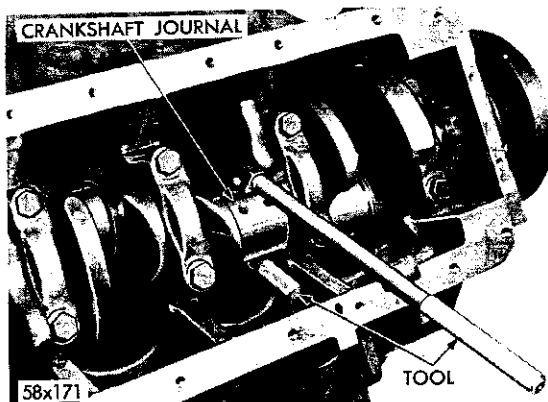

Fig. 46—Installing Connecting Rod Using Tool C-3221
(1) Before installing the pistons, rods, and rod assemblies in the bore, be sure that the compression ring gaps are staggered so that neither are in line with the oil ring rail gaps.
(2) The oil ring expander ends should be positioned toward the outside of the "V" of the engine. The oil ring rail gaps should be positioned opposite each other and above the piston pin holes.
(3) Immerse the piston head and rings in clean engine oil, slide the ring compressor, Tool C-385, over the piston and tighten with the special wrench (part of Tool C-385).
(4) Be sure the position of rings does not change during this operation. Screw the connecting rod bolt protector (part of Tool C-3221) on one rod bolt, and insert the rod and piston into cylinder bore.
(5) Attach the puller part of Tool C-3221 on the other bolt, and guide the rod over the crankshaft journal, as shown in Figure 46.
(6) Tap the piston down in the cylinder bore, using the handle of a hammer. At the same time, guide the connecting rod into position on crankpin journal.
(7) The notch or groove on the top of the piston must be pointing toward front of the engine and the larger chamfer of the connecting rod bore must be installed toward crankpin journal fillet.
(8) Install the rod caps, tighten nuts to 45 foot-pounds torque.